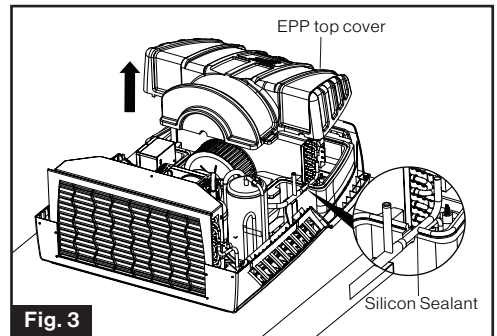

Fig. 3
3. Remove the EPP top cover of the evaporator by pulling upwards, and place it on a flat surface. (Fig. 3)